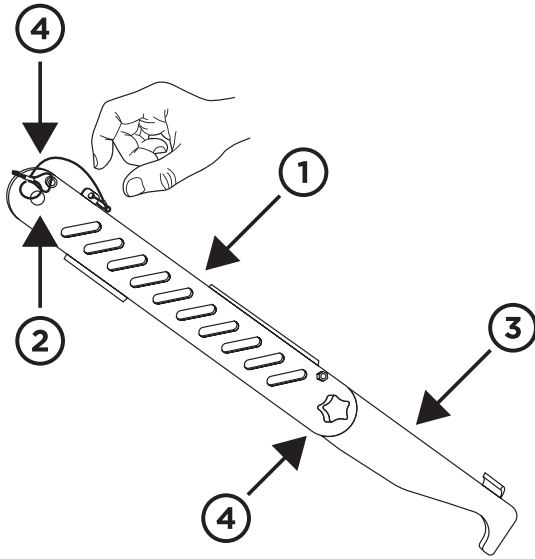
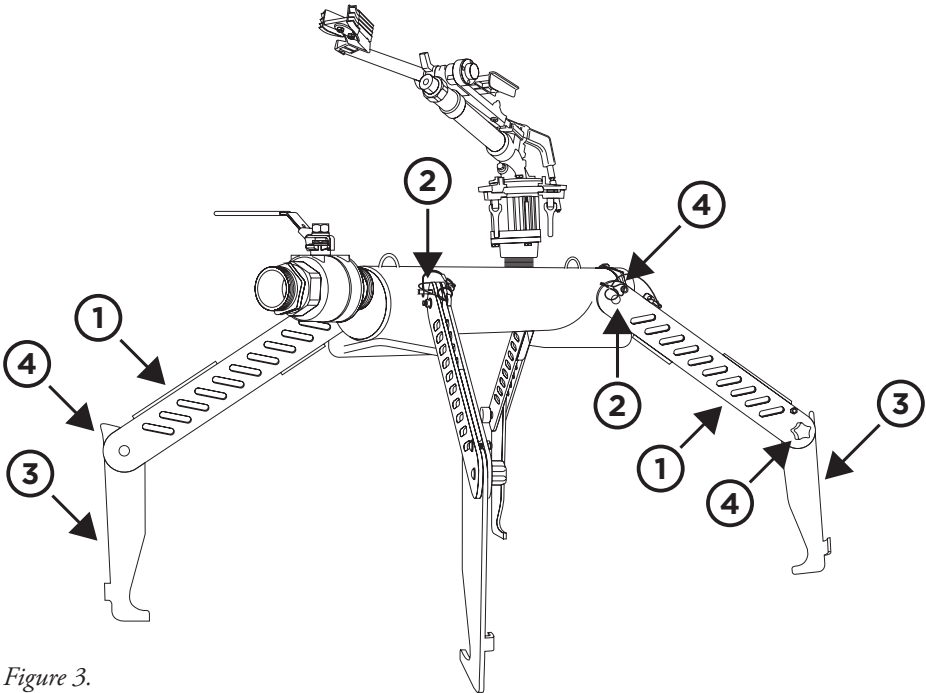

Figure 2.
Figure 3.
- Starting from either end of the unit (inlet or outlet) lift the entire assembly up with one hand. Legs should naturally drop down into position. Rotate legs to an angle to the ground while keeping steady pressure on the pins **②**, *Figure 2*.
- Do this for all legs **①**.
- Legs **③** may be additionally deployed in rough or unstable, or asphalt or cement surfaces to increase friction, *Figure 3*.
- Twist knob **④** to tighten legs in place.